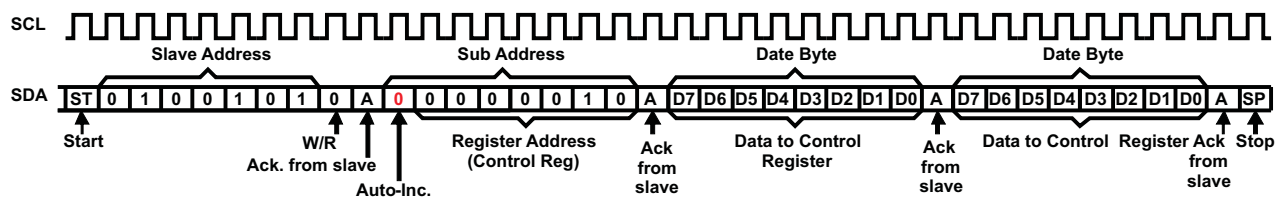
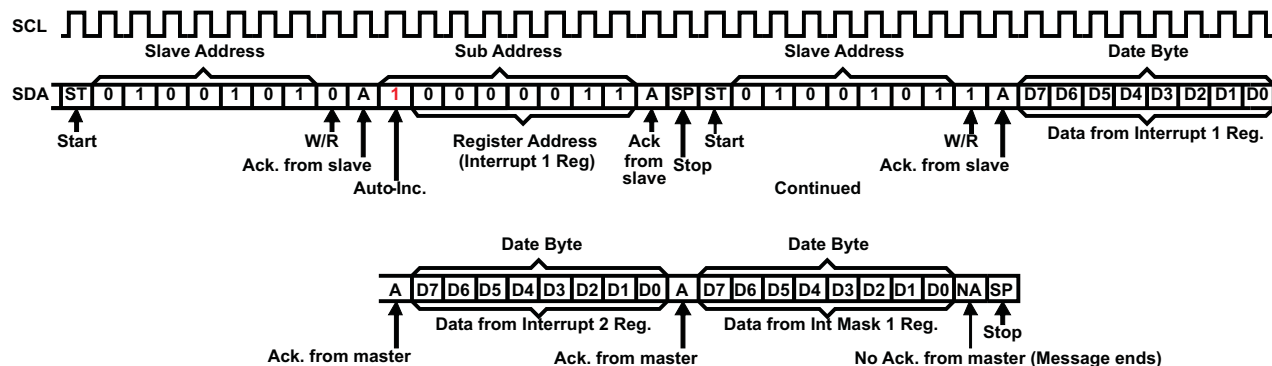

Figure 5. Repeated Data Write to a Single Register
Figure 10. Burst Data Read from Multiple Registers – Split Mode
Data is transmitted to the TSU6111A by sending the device slave address and setting the LSB to a logic 0 (see Figure 5 for device address). The command byte is sent after the address and determines which register receives the data that follows the command byte. The next byte is written to the specified register on the rising edge of the ACK clock pulse.
**Notes (Applicable to Figure 5–Figure 10):**